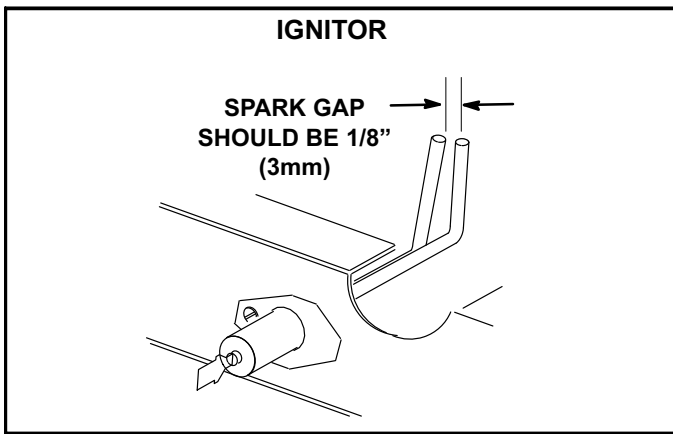

FIGURE 20
- 5- Locate the ignitor under the right burner. Check ignitor spark gap with appropriately sized twist drills or feeler gauges. See figure 20.